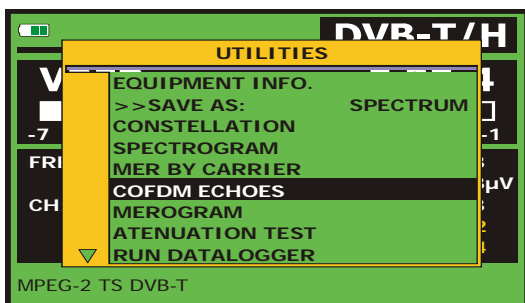

Figure 54.-. UTILITIES Menu.
2. Select the option COFDM ECHOES (Figure 54.-).